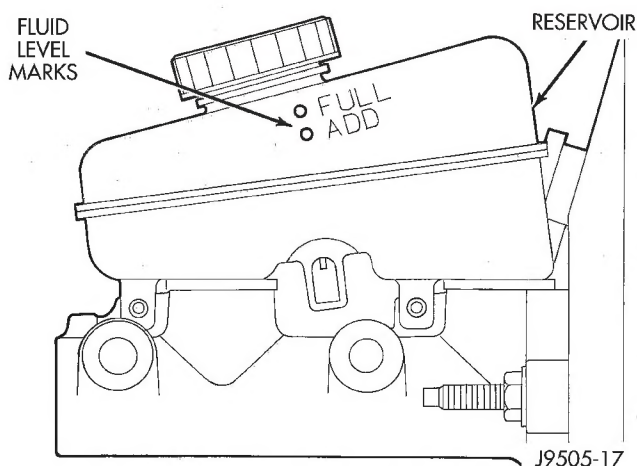

Fig. 8 Reservoir Fluid Level—YJ-XJ and Anti-Lock Brake System
The brake fluid level (Fig. 8) should be inspected when other underhood service is done. With disc-brakes, the fluid level can be expected to fall as the brake pads wear. However, a low fluid level can also be caused by a leak, and repair will then be necessary. Refer to Group 5, Brakes for proper service procedures.
(3) The brake fluid level should be no lower than the ADD indicator on the side of the reservoir (Fig. 8). If not, add brake fluid as necessary. Raise the fluid level to the FULL indicator only. Do not over-fill the reservoir.